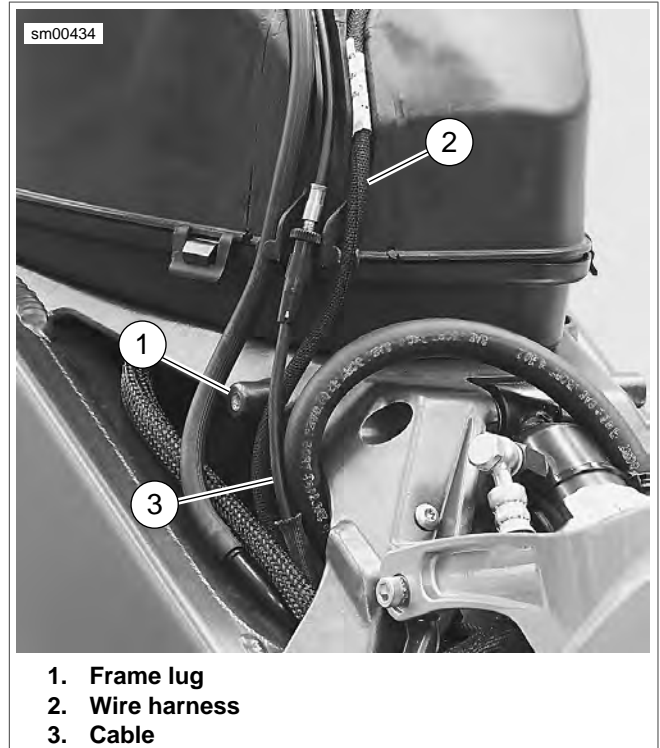

Figure 6-117. Correct Cable Routing Behind Frame Lug (Typical)
3. See Figure 6-117. Verify that the interactive exhaust cable (3) is routed behind the frame lug (1) before installing air intake cover.